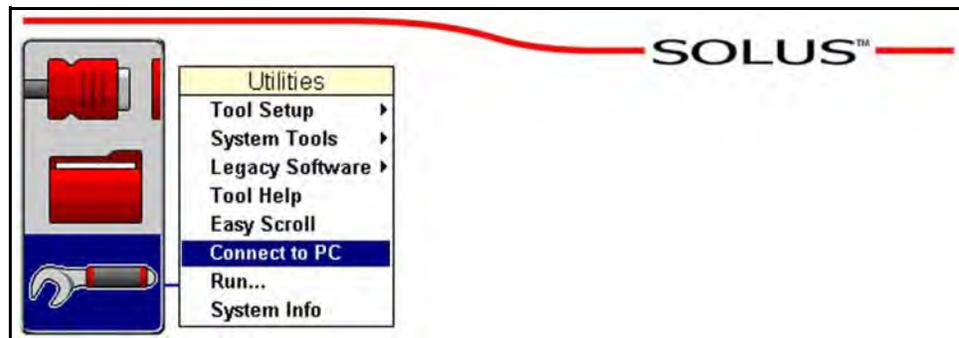

Figure 2-24 Sample SOLUS utilities menu
The screen message shows the tool is ready to connect to a PC (Figure 2-24).
2. From the Main Menu, navigate to **UTILITIES > Connect to PC** (Figure 2-24).